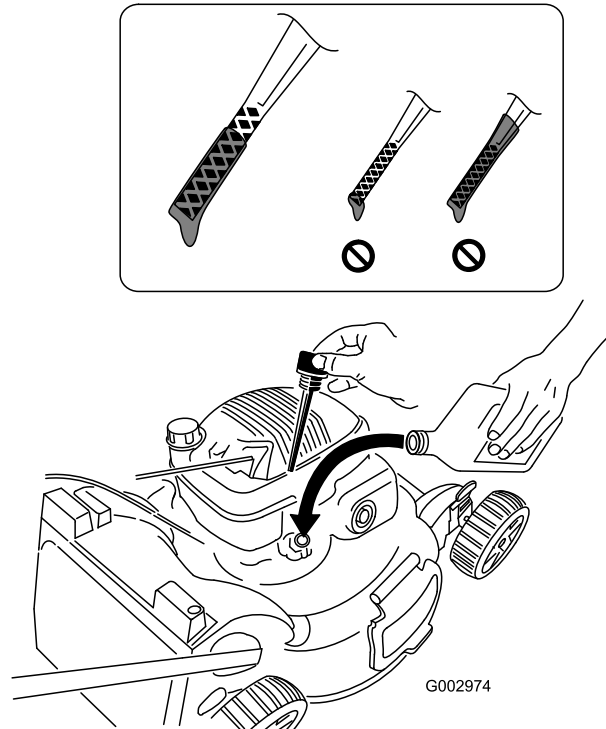

Figure 13
1. Remove the dipstick, wipe it clean, and insert it into the oil filler neck, **but do not screw it in** (Figure 13).
2. Remove the dipstick and check the oil level (Figure 13).
If there is no oil on the dipstick, **slowly** pour oil into the oil fill tube, periodically checking the level with the dipstick, until the dipstick indicates that the engine is full as illustrated in Figure 13. **Do not overfill.** (Max. fill: 0.58 quart (0.55 l), type: SAE 30W detergent oil with an API service classification of SH, SJ, SL, or higher.)